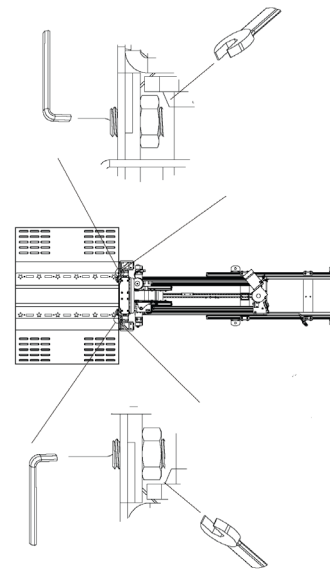

Figure 4-43
4. To adjust the tilt of the platform, loosen the nut and back out the set screw to tilt the platform down towards the ground. To tilt the platform up and away from the ground, loosen the nut and thread the set screw in. Once the proper tilt is set, hold the set screw in place and tighten the nut. *See Figure 4-43.*